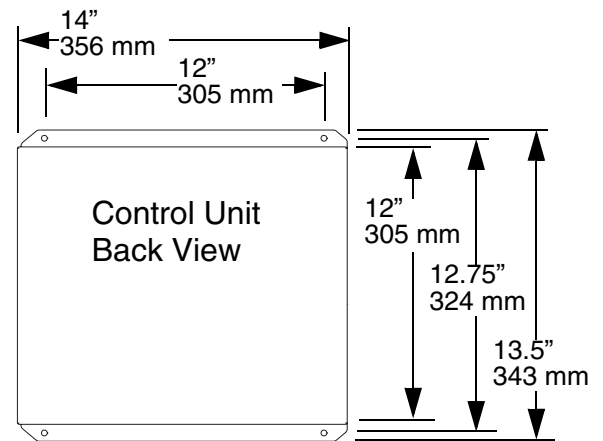

FIG. 6
- Select a location for the PrecisionFlo LT control unit that allows adequate space for installation, service, and use of the equipment. See FIG. 6.